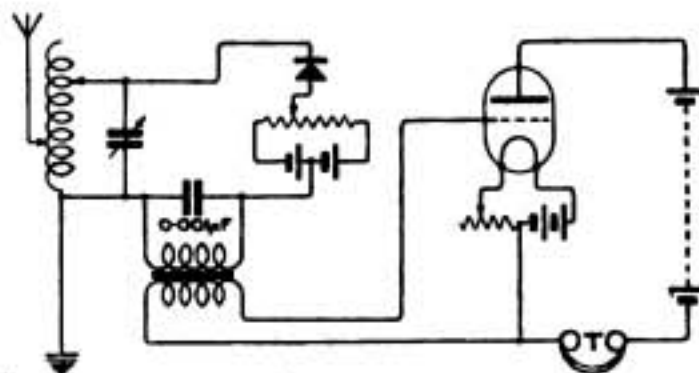

Fig. 2.
about 3,000 metres. The circuit shown is correct, except that the crystal battery is not right. The correct connection of a potentiometer is shown in Fig. 2, page 59, April 8th issue. The variable condenser might be 0.0003 mfd. For telephone transformer use about 6 ozs. of No. 36 wire for the primary and 6 ozs. of No. 32 for the telephone winding. You should hear ship stations Eiffel Tower and 2MT and Croydon telephony.
in the use of valves, the simplest way to add one to your crystal set is as a L.F. magnifier. A diagram (Fig. 2) showing how to do this is given. The voltage required will be 30 to 50 volts of dry cells for the plate, with a 6-volt accumulator for the filament.
**"F.T." (Southwell).**—Your circuit is quite correct. (2) Condenser "a," 0.0005 mfd.; "b," 0.0015 mfd.; "c," 0.001 mfd.; "d," 0.1 to 2 mfd. (3) Grid condenser and leak of correct values to suit your valve will improve results. (4) Quite suitable for the reception of PCGG.
**"OPTIMIST" (Forest Hill)** (1) and (2) submits crystal circuit for criticism. (3) Asks if it is better to use insulated wire for lead-in. (4) Whether the earth lead should be insulated.
(1) and (2) See circuit, Fig. 2, page 59, April 8th issue, and connect condenser, either in series, as is shown there, or in parallel, as you show, the former for short-wave reception and the latter for long wave. If your crystal is a perikon, omit the battery and potentiometer. The blocking condenser, presuming its value is suitable (0.002 mfd.) should be connected across your telephones. A closed circuit (inner coil) tuning condenser is recommended. (3) Aerial wire must not make contact with conducting or semi-conducting surfaces, and well insulate, either by using rubber-covered cable or by making use of an ebonite tube where the leads pass in to your instrument. (4) If your earth lead is long and can be kept well away from walls, etc., it should be insulated right to the point of earthing, otherwise take a heavy gauge bare conductor, such as No. 18 copper, to earth by the shortest route.
**"J.M.C." (Forress)** gives a circuit of a two-valve receiver with X and Y terminals in first valve circuit for insertion of reaction coils and the other valve acting as a note magnifier, and asks (1) If the circuit can be improved by the addition of a high-